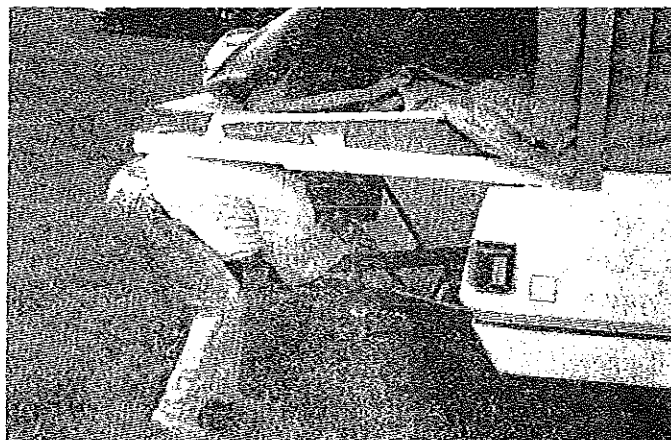

FIGURE 11
17. Kneel down beneath the side of the fully extended bed and pull down and swivel the bed support tubes from their travel positions. Lift the bed slightly while placing the free end of the bed support tube over the support peg. Perform same procedure for the rear bed. See Figure 11.